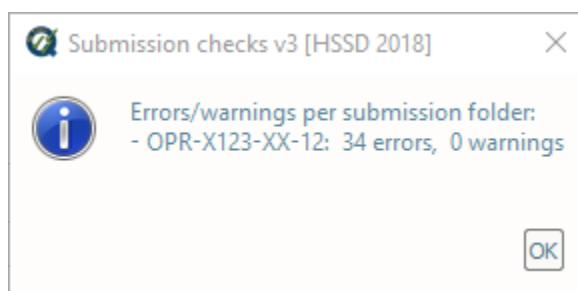

Fig. 2.57: The **Submission check** output message.
- After computing, the output window opens automatically, and the results are shown (Fig. 2.57).